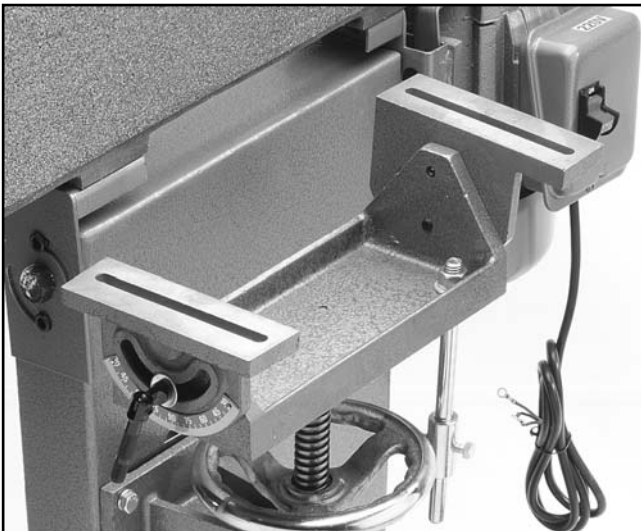

Figure 9. Table trunnions installed.
8. Attach the table trunnions to the table bracket. Each is held in place with a $\frac{3}{8}$ " flat washer and lock handle. **See Figure 9.** The trunnion with the scale attaches to the left side.